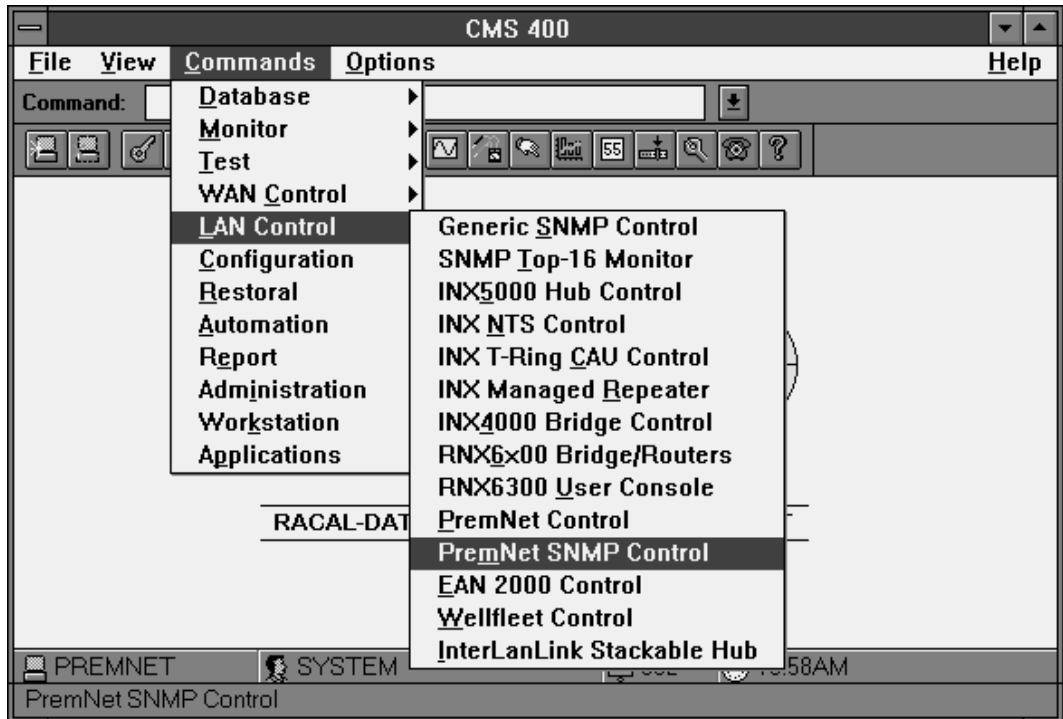

Figure 2-1. CMS 400 Commands Menu
1. Select LAN Control from the Commands menu in CMS 400 (refer to Figure 2-1).